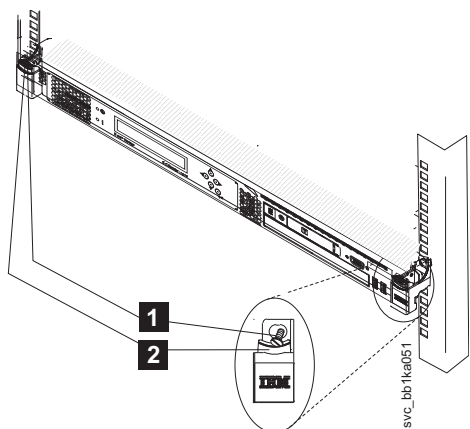

Figure 18. Release latches and mounting screws of the SAN Volume Controller 2145-CG8 or 2145-CF8
- a. Remove any optional M6 screws, as shown by **1** in Figure 18 on page 32, from the front of the node.